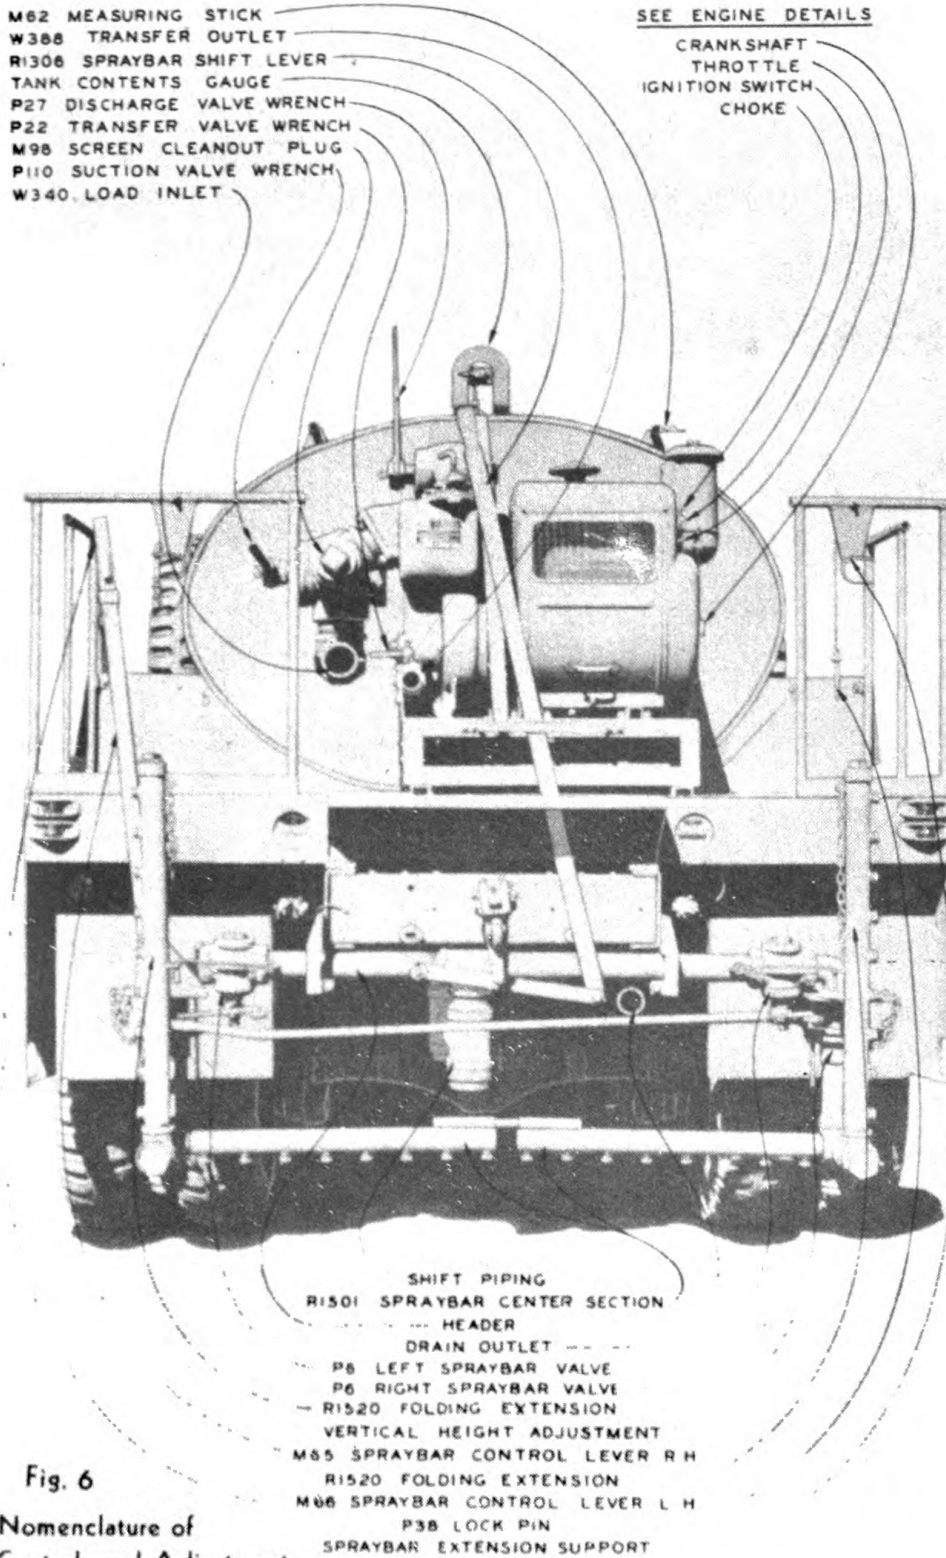

Fig. 6
NOMENCLATURE OF CONTROLS AND ADJUSTMENTS (Fig. 6)
Water flows from tank at point (B) through P18 Valve and then through pump—Discharged at top left of pump water flows to P17 Valve and then to the Spraybar. Spraying operation starts when P6 Valves are opened (Fig. 6).
STARTING THE ENGINE: Ignition Switch Button, Choke, and Crankshaft are located on the right side of the machine as shown on (Fig. 6). Push in the Ignition Switch Button.
OPERATING POSITIONS OF CONTROLS (Fig. 6 and 8)